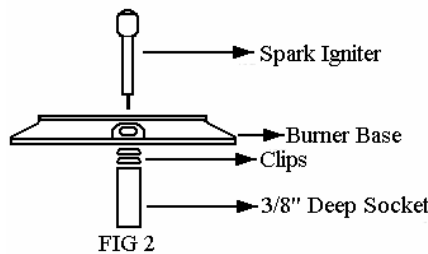

FIG 2
- Align the new igniter (M) with the burner base, clips (L) and a 3/8" deep socket (Z). (Fig 2)